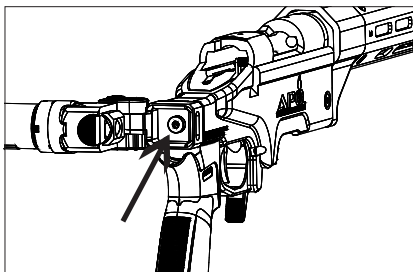

Figure 36 - Double Locking Hinge Internal View
3. Open the Double Locking Hinge located at the end of the Buffer Tube by pressing the large half circle button in and rotate the buffer tube assembly to the 9 o'clock position. (Fig 36)